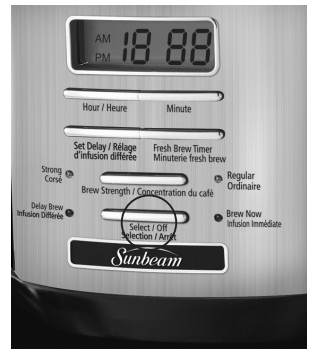

FIGURE 9
3. To activate DELAY BREW and program your coffeemaker to brew coffee at a later time, press the **SELECT** button twice (Figure 9). The yellow **DELAY BREW** light will turn on. The coffeemaker is now set to automatically brew coffee at the pre-set later time. At this time the brew strength light will turn on. You can select the strength that you desire by pressing the **BREW STRENGTH** button.
Press the **SELECT** button until all lights turn off (Figure 9).